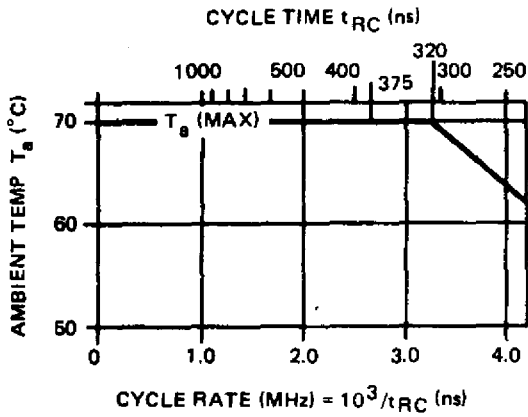
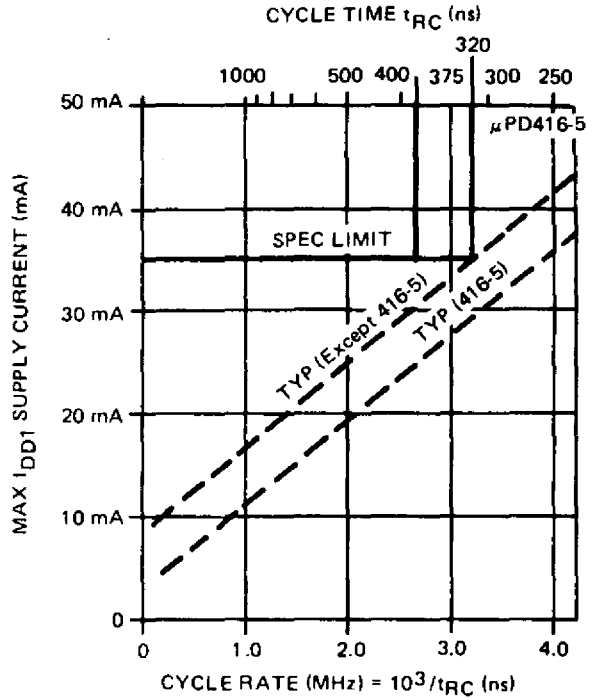

FIGURE 1
FIGURE 2
Notes: ① T_a is specified here for operation at frequencies to t_{RC} > t_{RC} (min). Operation at higher cycle rates with reduced ambient temperatures and high power dissipation is permissible, however, provided AC operating parameters are met. See Figure 1 for derating curve.
② All voltages referenced to V_{SS}.
③ Output voltage will swing from V_{SS} to V_{CC} when activated with no current loading. For purposes of maintaining data in standby mode, V_{CC} may be reduced to V_{SS} without affecting refresh operations or data retention. However, the V_{OH} (min) specification is not guaranteed in this mode.
④ I_{DD1}, I_{DD3}, and I_{DD4} depend on cycle rate. See Figures 2, 3 and 4 for I_{DD} limits at other cycle rates.
⑤ I_{CC1} and I_{CC4} depend upon output loading. During readout of high level data V_{CC} is connected through a low impedance (135Ω typ) to data out. At all other times I_{CC} consists of leakage currents only.